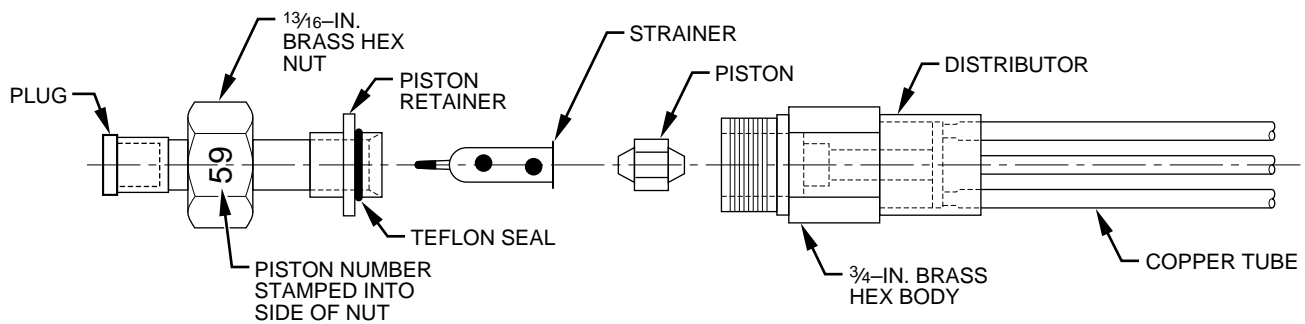

Fig. 6—Refrigerant Control Device Components
2. Replace piston if required. Check the piston size stamped into side of brass hex nut. (See Fig. 6.) If this piston number does not match required piston shown on outdoor unit rating plate, replace indoor piston with piston shipped with outdoor unit.